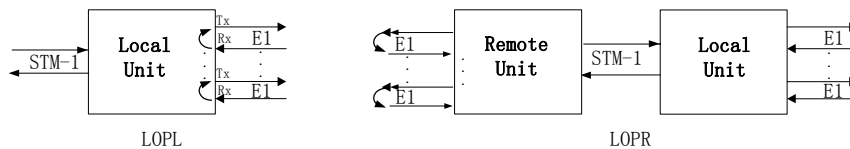

Fig. 3-3 Local and remote loop-backs
c) The LOPL and LOPR are indicated in Fig. 3-3.